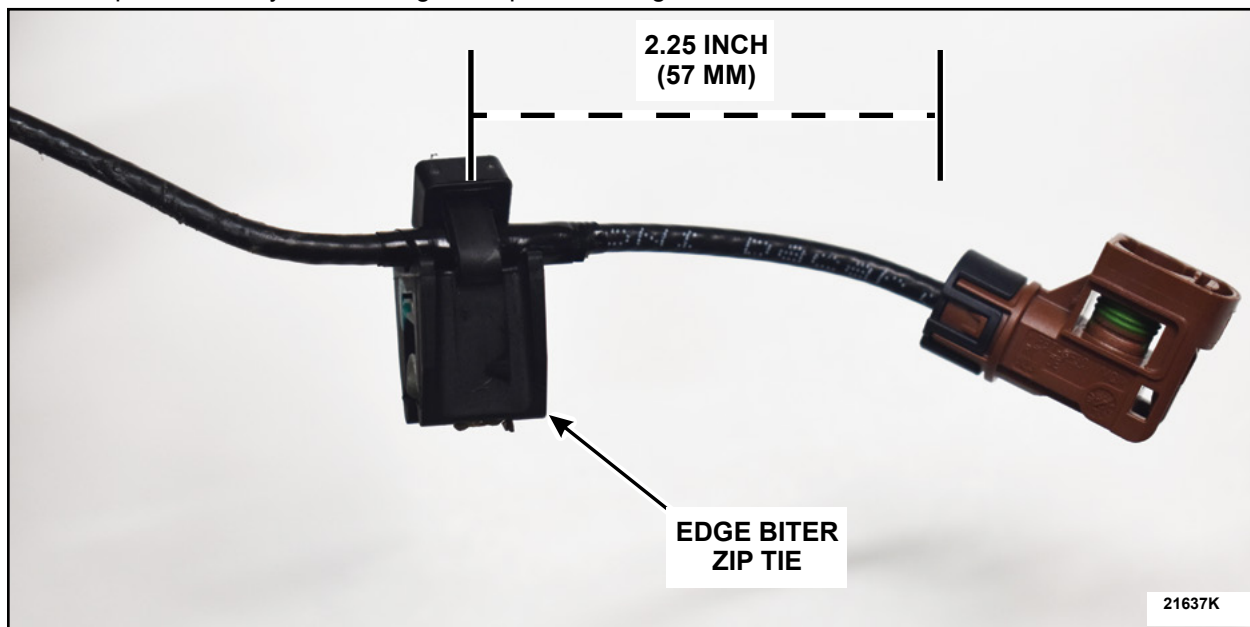

FIGURE 5
6. Measure 2.25 inch (57 mm) from the back of the rear camera electrical connector and install the edge biter zip tie. Trim any excess length of zip tie. See Figure 5.